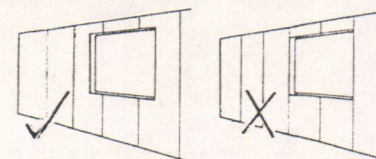

Fig. 17 Sheet layout for openings
- Where sheet end joints are above and below door or window lines, joints may crack due to structural movement. Fix sheets across door and window openings so sheet edges do not coincide with the sides of the window or door, then cut away waste. (Refer Fig. 17).